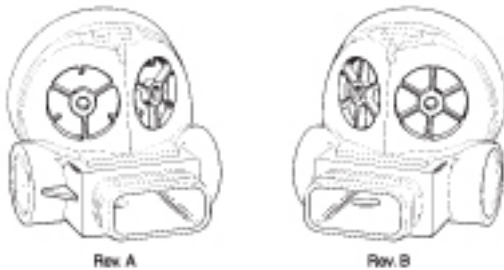

Figure 18 - Rev. A & Rev. B Identification
22. Remove and discard the two exhaust valve diaphragms (7).
23. Closely examine the exhaust valves inside the box bottom, and count the number of spokes in each valve to identify whether the box bottom is a Revision A part (three spokes) or Revision B (six spokes). (See Figure 18).